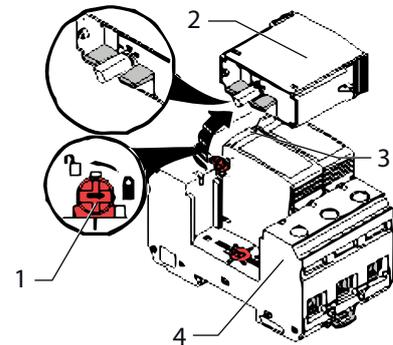

Figure 33: DC overvoltage protection
- 1. Check individual modules using the status display (pos. 3 in Figure 33).